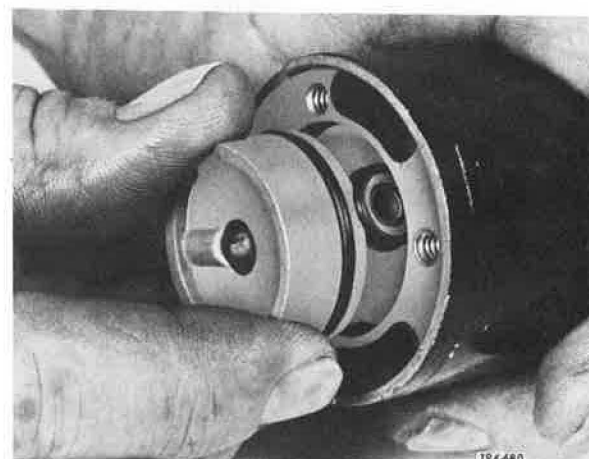

Figure 5-399. Installing Rotor
7. Hold exhaust valve in place against its spring, and install rotor into valve body. See Figure 5-399.